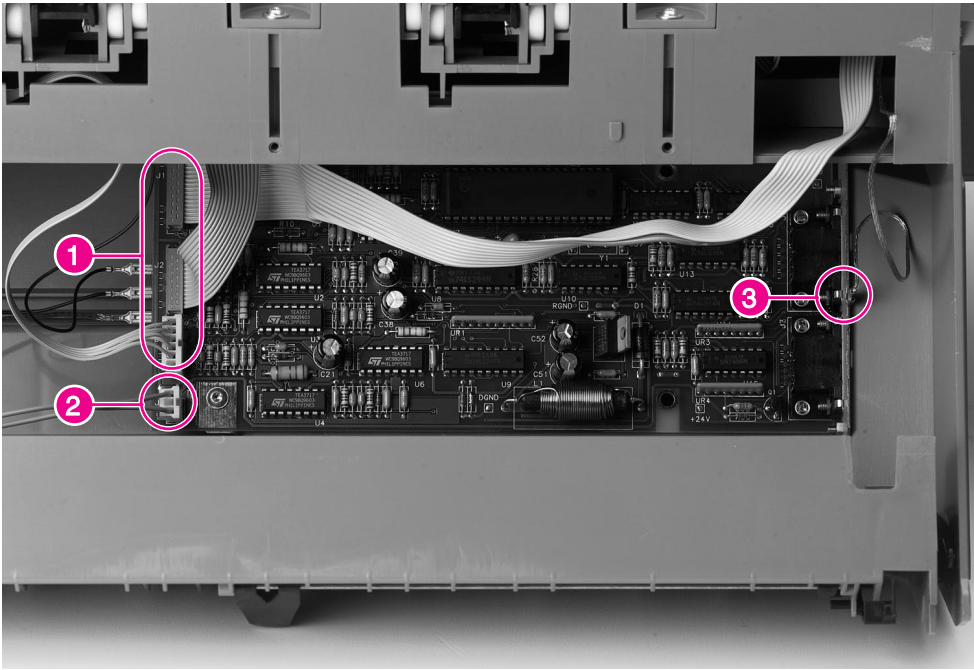

Figure 6-185 Stapler Controller PCA (2 of 3)
- 4 Unplug the cables that are connected to the PCA. Identify their color and size and the ground cables (see figure 6-185, callouts 1 and 2).
- 3 Unplug the ground and signal cables from the right side of the Stapler Controller board, being careful to keep them in the cable holder. See callout 1 and 3 on figure 6-185.
- 6 Disconnect the 2 cables in the hinge containing cables from the Stapler Controller PCA (see figure 6-185 on page 372, callout 2).